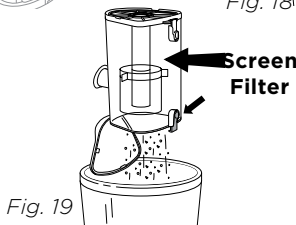

Fig. 19
- 3 If needed, turn the dust cup upside down over the trash receptacle and press the top door release button. (Fig. 19) Tap gently to remove contents.